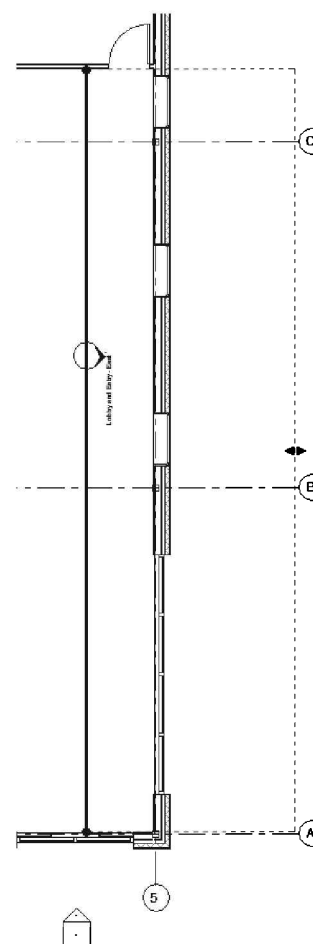

FIGURE 10-2.3 Elevation tag selected
8. Pick the pointed portion of the *Elevation Tag* so you see the view options (Figure 10-2.3).